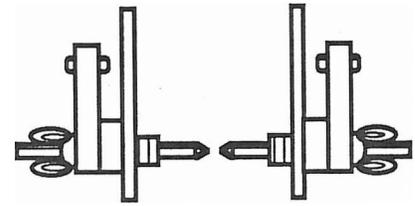

Fig. B-10
8. If not already done, move the table next to the headstock and lock the carriage. Use a 5/16" Allen wrench to loosen the template bracket screws (11). Rotate the template support brackets their template center points face inward, as in Fig. B-10.